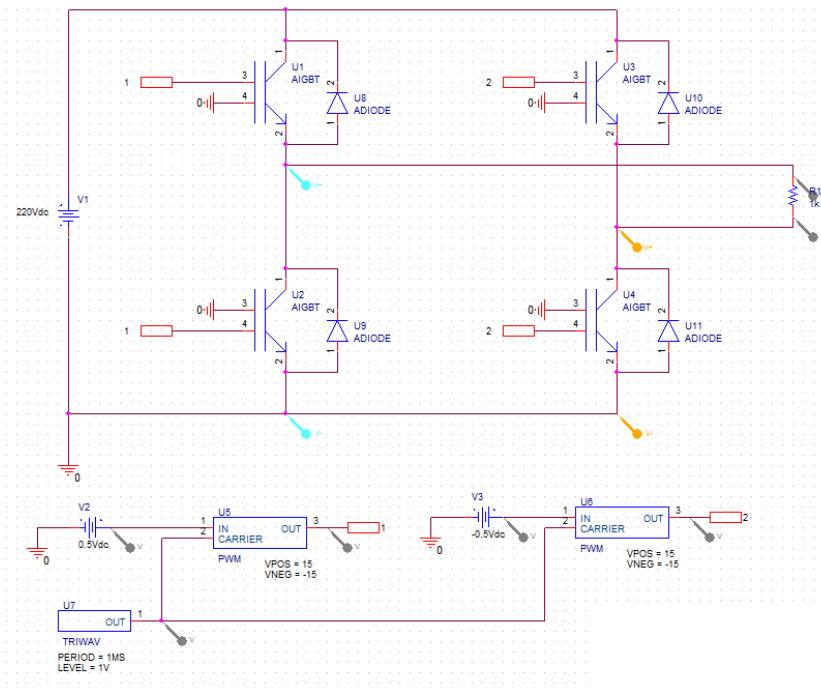
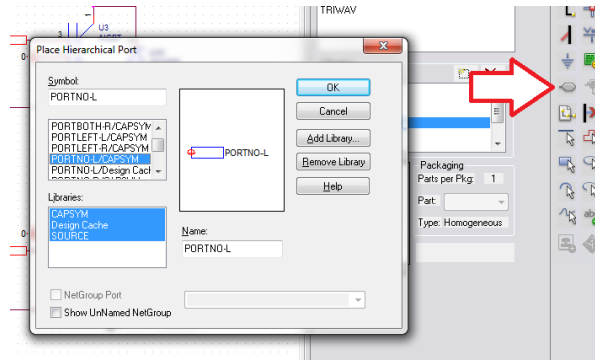

Figure 3
Figure 4
- 3) Open schematic page and build the following switch mode dc/dc converter using ADIODE, AIGBT, PWM, and TRIWAV module (Figure 3). PORTNO-L and PORTNO-R are used to connect gate signal and PWM output (Figure 4). Also use DC voltage sources and resistor under “Place – Pspice components...”.